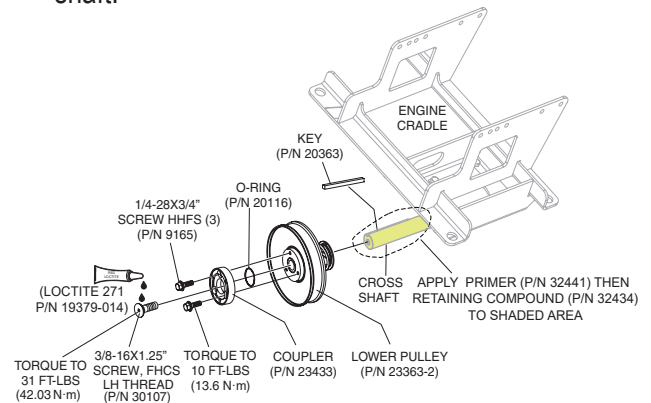

Figure 12. Lower Pulley Installation
Refer to Figure 12.
2. Apply primer (Loctite 7649, P/N 32441) to the cross shaft and key way in the shaded area shown in Figure 12.